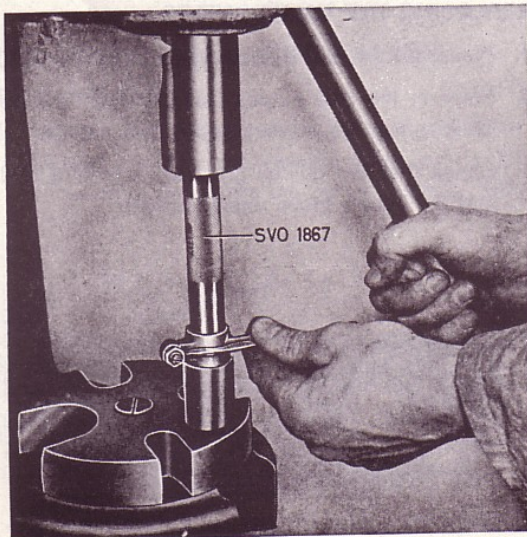
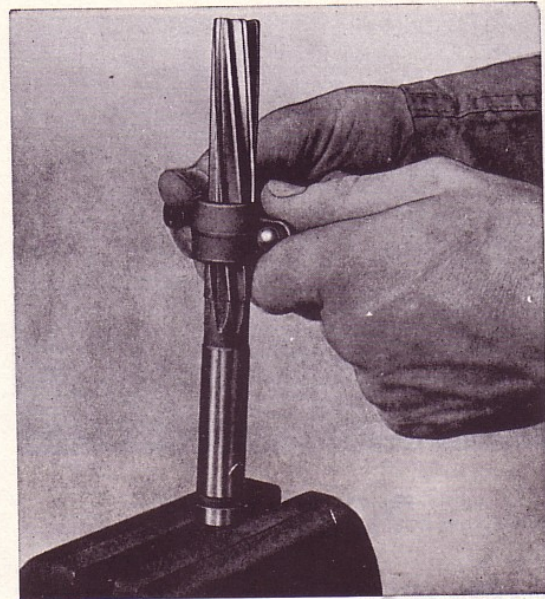

Fig. 26. Replacing the rocker arm bush
Fig. 27. Reaming the bush
1. If wear amounts to 0.1 mm (0.004"), replace the rocker arm bush. Use tool SVO 1867 for pressing the bush both out and in, see Fig. 26. Then ream the bush with a suitable reamer until an accurate fit on the shaft is obtained, see Fig. 27. The hole in the bush should coincide with the hole in the rocker arm.